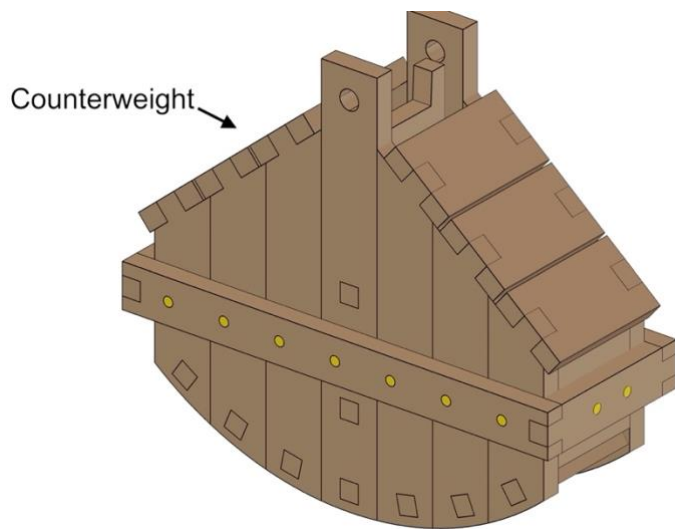

Fig. 87
- *Fig. 87* shows the completed process.